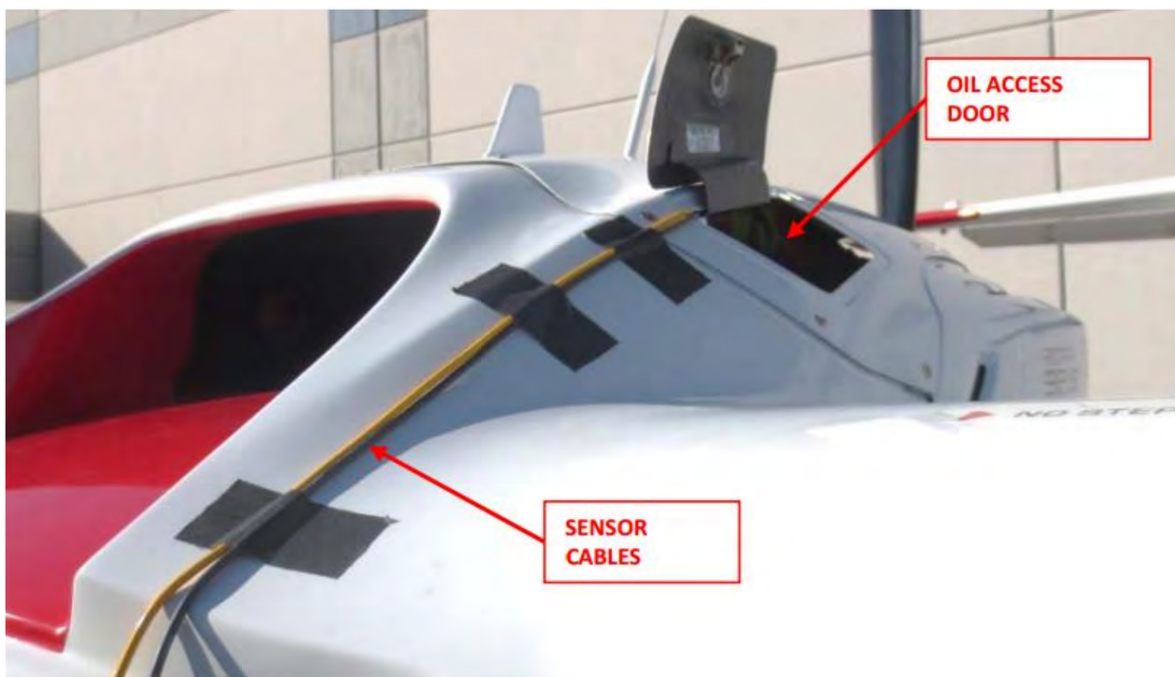

FIGURE 17-60
4. Route accelerometer wire through the oil access door in the engine cowl, reinstall the top engine cowl, and connect antennas. (See Figure 17-60 and “Install Engine Cowlings” on page 17-19.)
6. Run the optical tachometer and accelerometer wire together to the front of the aircraft. Secure with SpeedTape. (See Figure 17-60.)